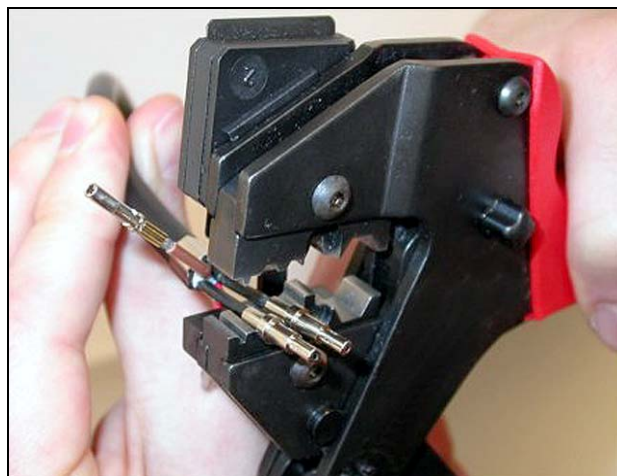

figure 3.20: Crimping ferrules (2)
- 24 Put both ferrules in the crimping tool (tool 3, see figure 3.20).